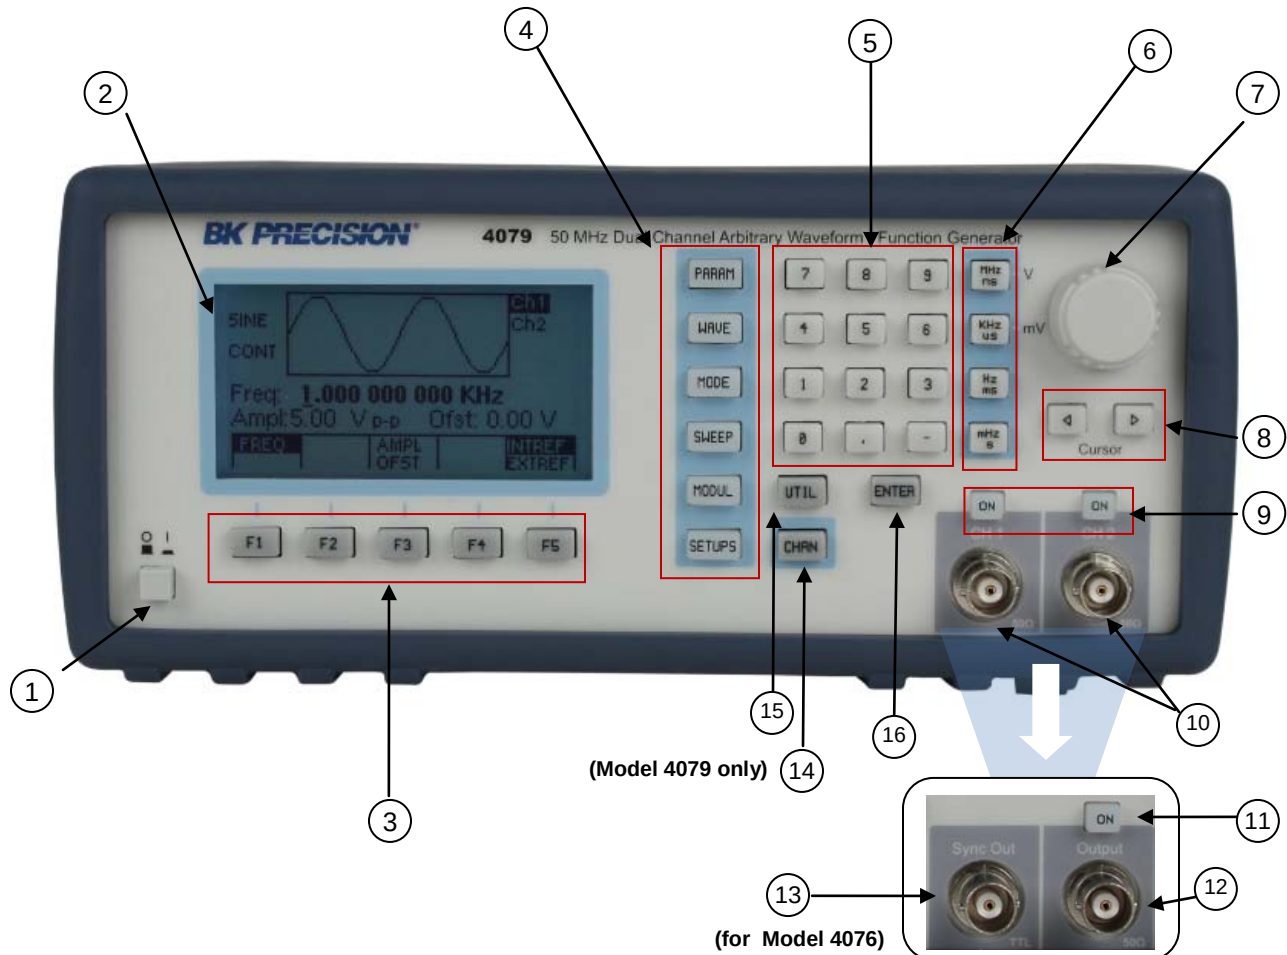

Figure 3.1 - Front Panel View
The front-panel controls select, display, and change parameter, function, and mode settings. They also include the keys you use to program and generate arbitrary waveform output. **Refer to Figure 3.1.** Use the rotary input knob and the cursor movement keys to enter data into the waveform generator.
2. **CH1 Sync** - This is the sync output of channel one. For model 4076 the sync output is in the front panel of the instrument (see Figure 3.1).
4. **CH2 Sync** - This is the sync output of channel two. For model 4076 the sync output is in the front panel of the instrument (see Figure 3.1).